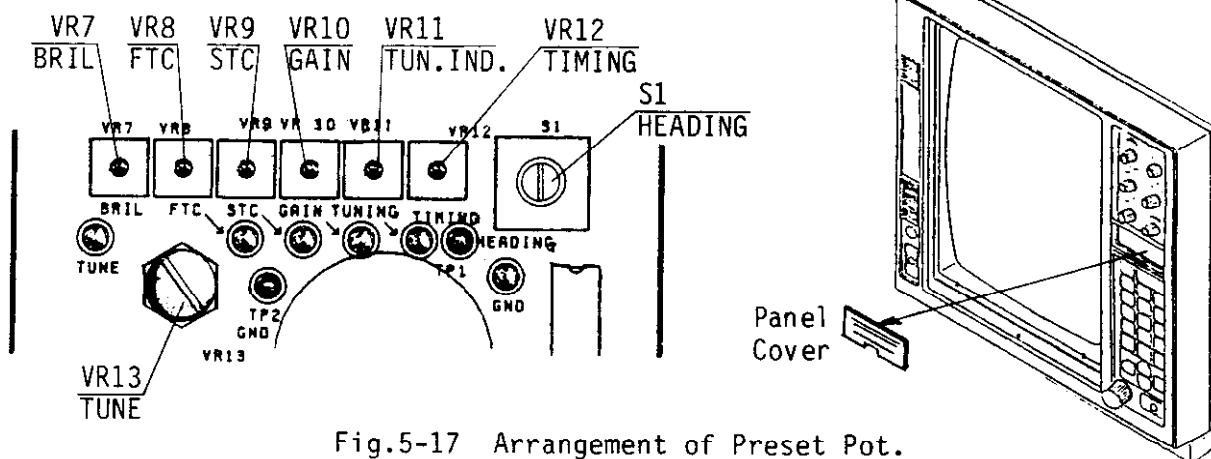

Fig.5-17 Arrangement of Preset Pot.
6. Both the bearings "A" and "B" should be same. If the difference is within  $\pm 5^\circ$ , adjust rotary code switch S1 (HEADING, working range  $\pm 5^\circ$  in steps of  $0.7^\circ$ . Clockwise rotation shifts the picture CW.) See Fig.5-17 for the location of S1.
3. Adjust VR13 (TUNE) so that a comparatively weak long range echo is discerned with maximum definition. See Fig.5-17 for the location of VR13.
4. Adjust VR11 (TUN.IND) so that four tuning markers of the tuning bar light up with the fifth marker blinking. See Fig.5-17 for the location of VR11.
The minimum brightness of the CRT can be adjusted to suit operator's needs, by adjusting VR7 (BRIL). See Fig.5-17 for its location.
Adjustments of preset gain, A/C sea and A/C rain are shown in this section. If the radar does not meet the following conditions, adjust corresponding preset potentiometers VR10 (GAIN), VR9 (STC) and VR8 (FTC). See Fig.5-17 for its location. Set the controls as below.